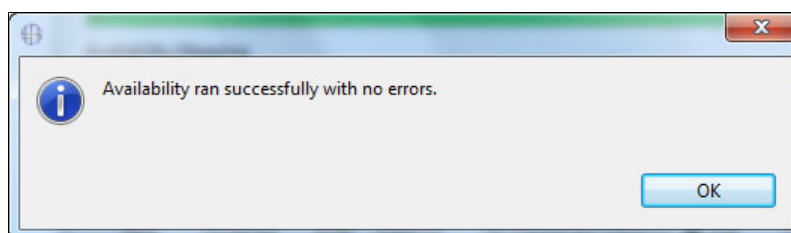

Figure 5-89 CMT - Availability ran successfully with no errors message
6. After the CHPID Mapping Tool resets the CHPIDs, it displays the result of the process (Figure 5-89). Click **OK**.